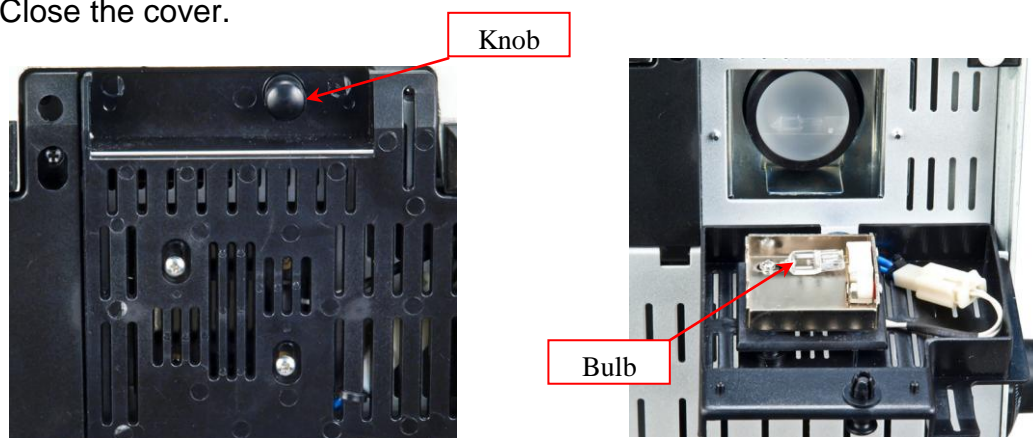

Fig. 4
- 4) Open the cover on the bottom of the base by pull the knob. Take out the dead bulb and insert the new bulb. Be sure the pins on the bulb are completely inserted into the lamp socket. See **Fig. 4**